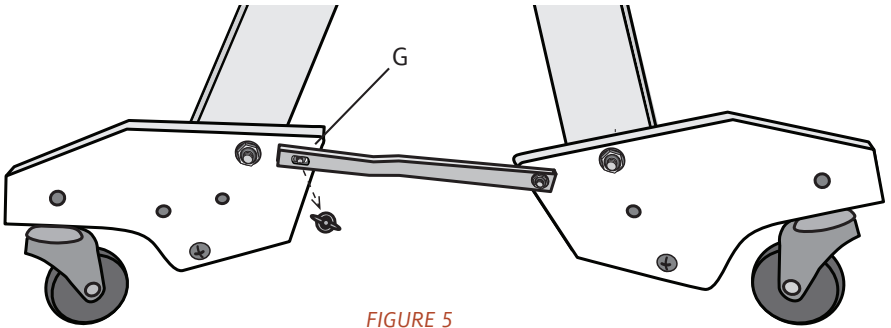

FIGURE 5
12. Using the stroller. (figure 5) Fold the loom. Tighten the fold-up knobs and secure the slide lock bars to prevent the loom from opening. You will notice that the loom is now sitting on its stroller wheels. Remove the wing nut from the bolt at (G) on the front caster blocks. Place the slots at the front end of each metal support bar over these bolts, replace the wing nuts and tighten. Your Wolf loom is now ready to travel. ■